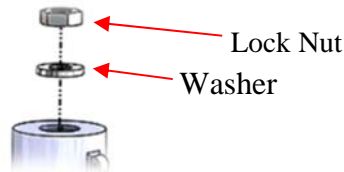

Figure 15: 1" Body Upper Bonnet Components
10. Remove the lock nut and washer. See Figure 15.